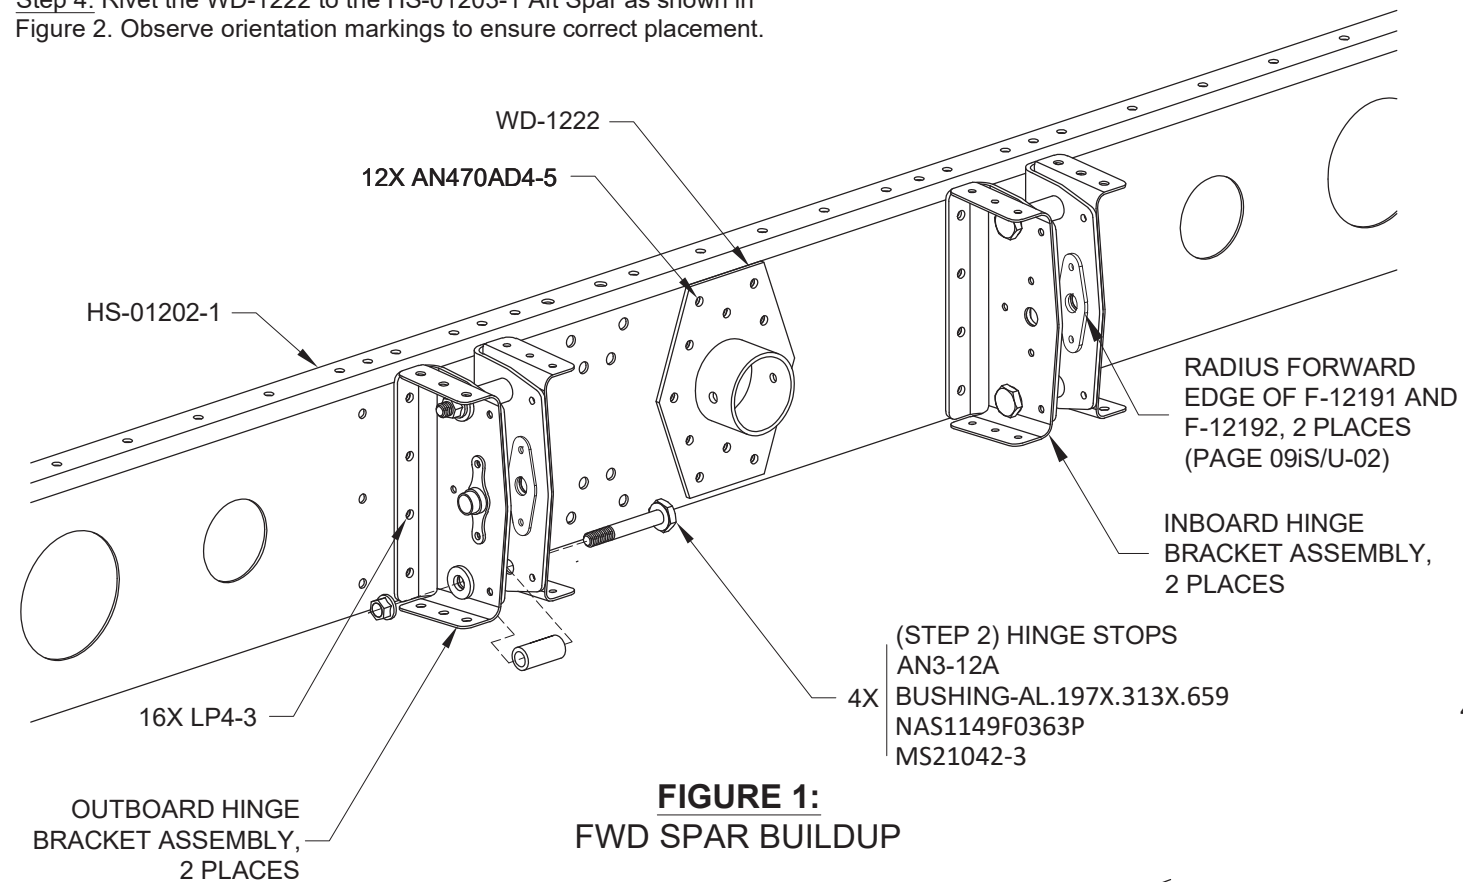

FIGURE 1:
Step 1: Rivet the Hinge Bracket Assemblies to the HS-01202-1 Fwd Spar as shown in Figure 1.
Step 2: Temporarily install the Hinge Stop hardware as shown in Figure 1.
Step 3: Rivet the forward WD-1222 Counterbalance Bracket to the fwd spar. See Figure 1. Observe orientation markings to ensure correct part and placement.